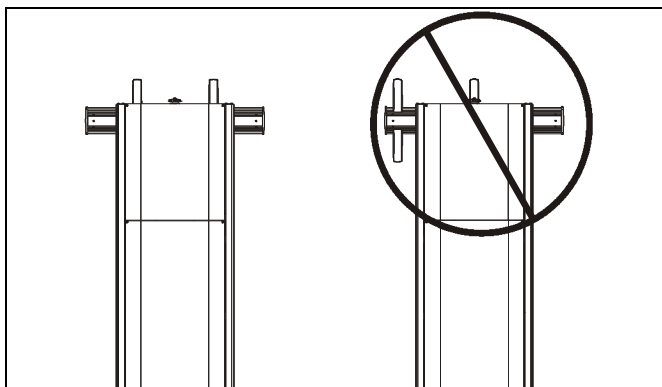

Figure 10
**IMPORTANT ! :** In order to ensure an even mount, install uprights to be centered over column assembly. Do NOT install both uprights to the same side of column assembly! (See Figure 10)